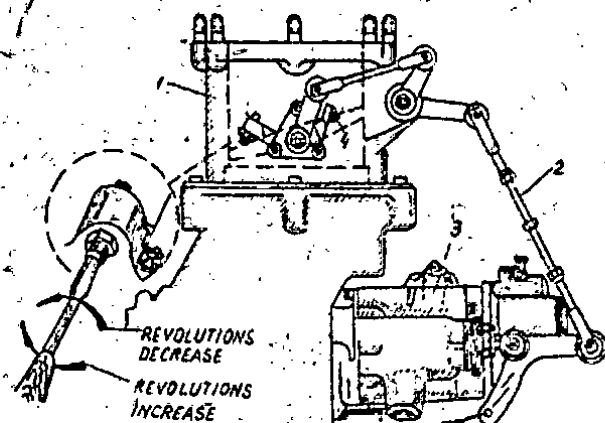

Fig. 23. Control rods mounting and r.p.m. adjustment at low speed.
4. Connect the throttle control lever to the PQQ control lever by rod 2 (Fig.23) ensuring complete opening and closing
The engine r.p.m. at low speed are adjusted by means of the low speed screw 4 on the throttle box (Fig.23).